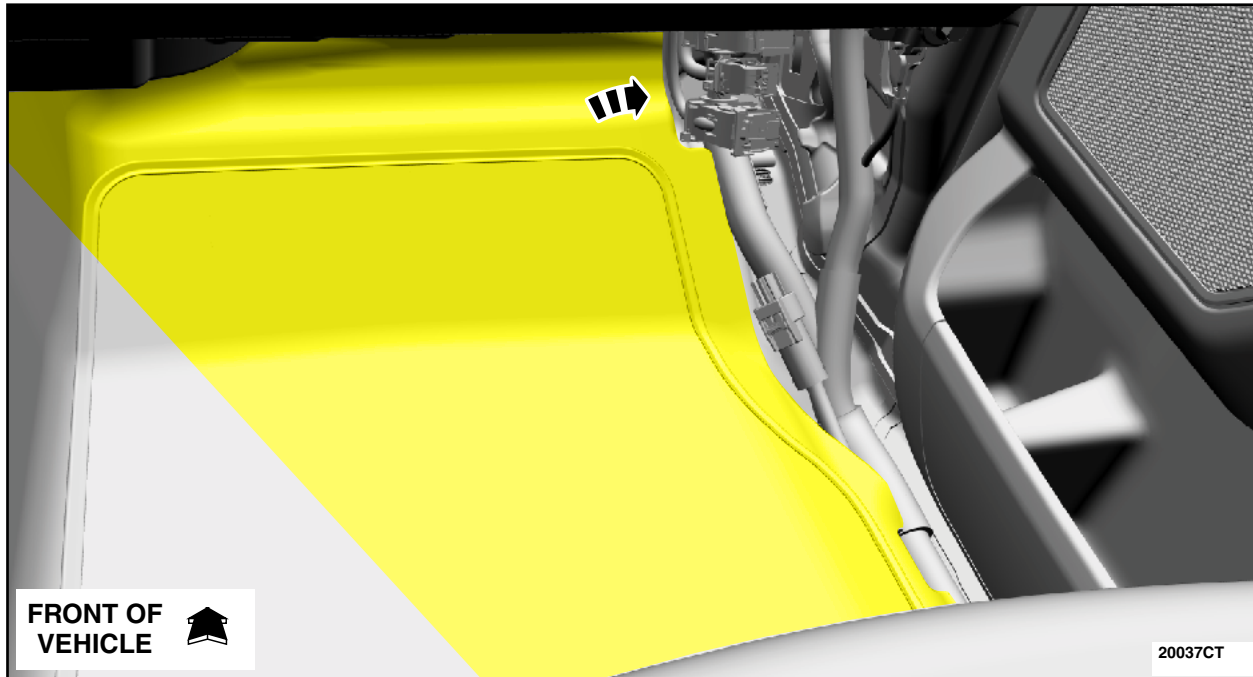

FIGURE 102
93. Position back the RH front carpet. See Figure 102.